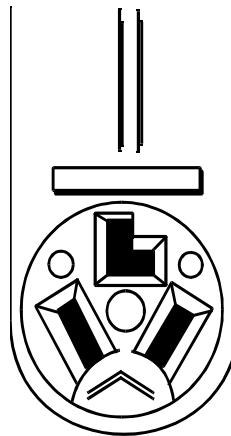
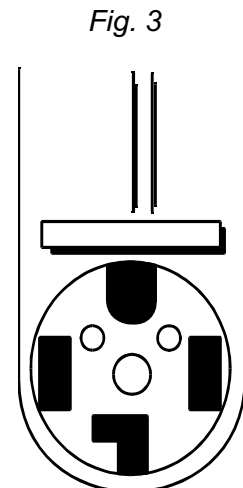

Fig. 2
Fig. 3
- A. A three-wire (*Fig. 2*) or four-wire (*Fig. 3*), single phase, 120/240 volt, 60 Hz, AC only electrical supply is required on a separate 30-ampere circuit, fused on both sides of the line. A time-delay fuse or circuit breaker is recommended.